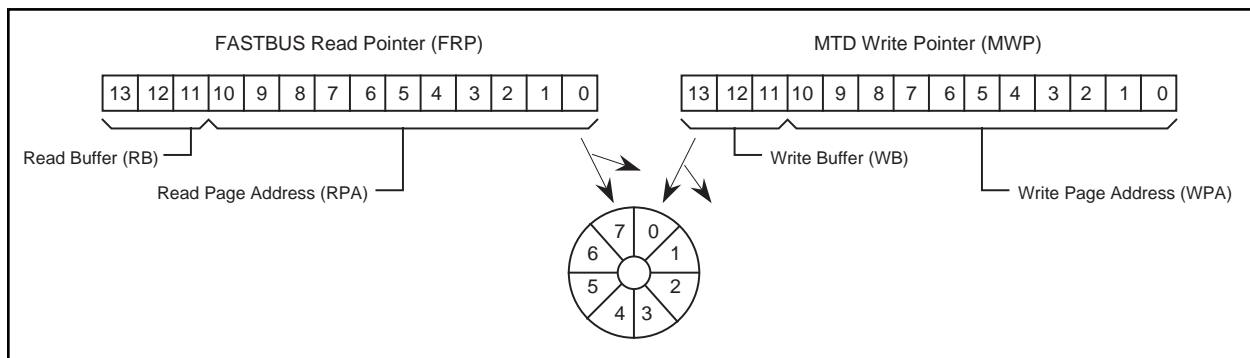

Figure 9: 1877 Circular Buffer
The seven individual buffers are logically organized as a circular buffer structure. Two pointers are maintained into the circular buffer memory - MTD Write Pointer (MWP) and FASTBUS Read Pointer (FRP). Each pointer is really made up of two separate pointers: a page pointer - Read Page (RP) and Write Page (WP) - and an address pointer within that page - Read Page Address (RPA) and Write Page Address (WPA). See Figure 9. How the buffer pointers are controlled depends on the operational mode of the module.
**FASTBUS Read Pointer (FRP):** The Read Buffer (RB) can be manipulated directly by writing to CSR 16. RP may also be effected through the use of the Load Next Event (LNE) command which prepares the module for FASTBUS readout. A LNE command would have the effect of incrementing RP so that the FRP is advanced to the next buffer in the circular structure. In the default mode of the module, the Read Page Address (RPA) is not accessible to the user. In Memory Test Mode, however, the RPA becomes the Data Space Next Transfer Address and may also serve as a write pointer to Data Space. See section on Memory Test Mode for discussion.
**MTD Write Pointer (MWP):** The Write Buffer (WB) can be manipulated directly by the user by writing to CSR 16. Otherwise, WP is maintained by the front-end MTD readout circuits. The Write Page Address (WPA) is maintained solely by the front-end MTD readout circuits and is not accessible to the user in any way.
Upon power up of the module or Master Reset via FASTBUS command, the MTD Write Pointer is pointing to the beginning of buffer zero and the FASTBUS Read Pointer is pointing to the beginning of buffer seven. See Figure 9. This relative positioning of the pointers, that is the read pointer one buffer behind the write pointer, defines the Empty Condition. The Full and Empty conditions as described apply before a LNE is issued: i.e. if a